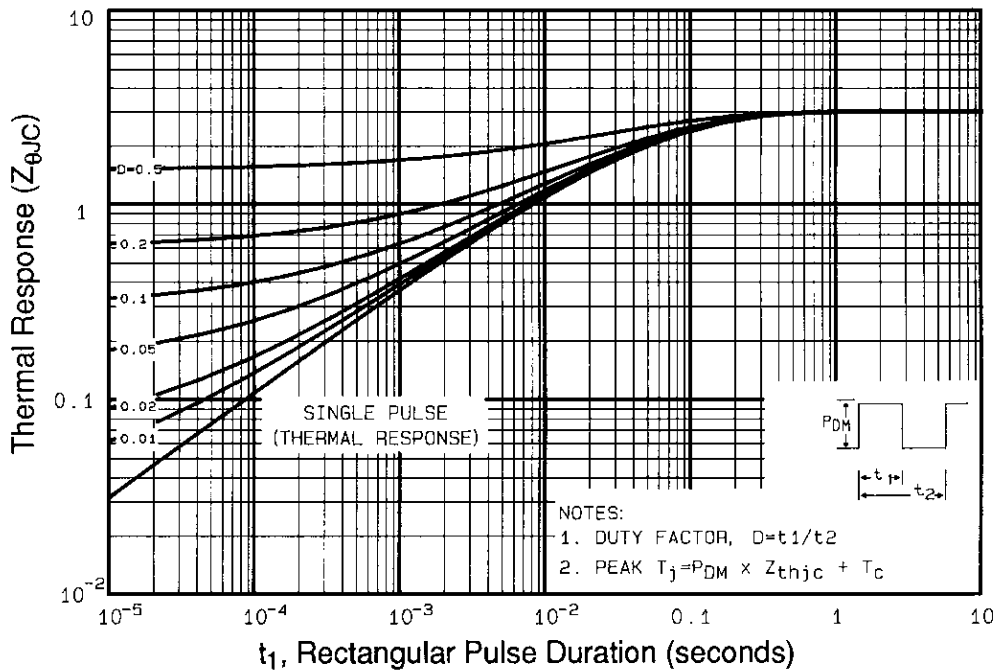

Fig 11. Maximum Effective Transient Thermal Impedance, Junction-to-Case
① Repetitive rating; pulse width limited by max. junction temperature (See Figure 11)
③ $I_{SD} \leq 17A, di/dt \leq 110A/\mu s, V_{DD} \leq V_{(BR)DSS}, T_J \leq 150^\circ\text{C}$